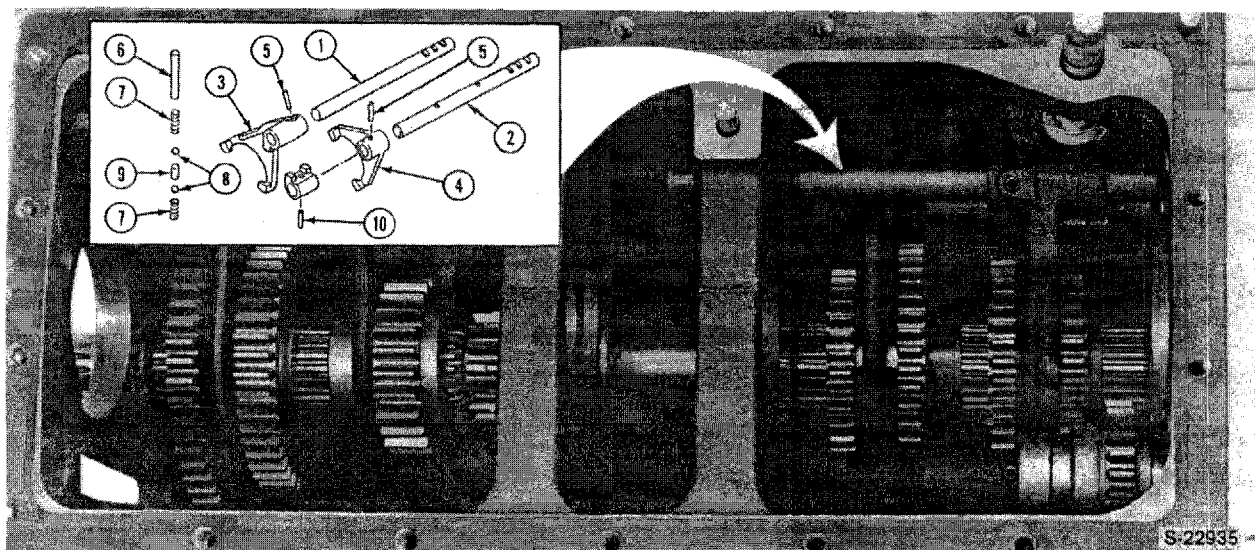

Figure 121
MAIN SHIFT RAILS AND FORKS — REMOVAL Reference — Figure 121
2. Remove the detent pin (6), spring (7), and ball (8), Figure 121.
- Using a small pencil type magnet, remove the interlock pin (9) from the detent bore.
- Drive the roll pin out of the shift boss (10) and rail, Figure 121.